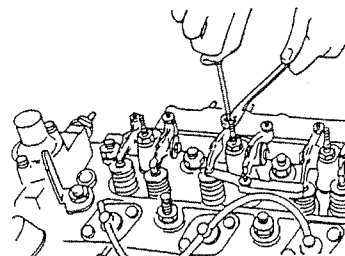

Figure 13: Valve Adjustment
5. To adjust, insert a thickness gauge in between the rocker arm and valve cap. Then loosen the lock nut and adjust the clearance between the rocker arm and valve cap of both the intake and exhaust valves with the adjustment screw (Figures 13 and 14). Clearance on both intake and exhaust valves should be 0.006 - 0.010 in. (0.15 - 0.25 mm).